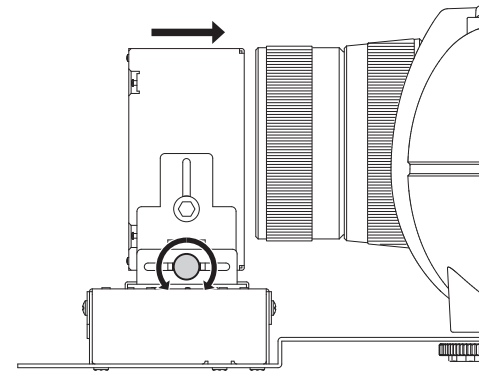

Figure 29
4. In order to take full advantage of the performance of the anamorphic lens, it is important to keep the gap between the anamorphic lens and projector's lens as small as possible. Adjust the gap between the anamorphic lens and projector's lens by loosening the screw located on the lens slider. Refer to Figure 29. After adjustment, securely tighten the loosened screw.